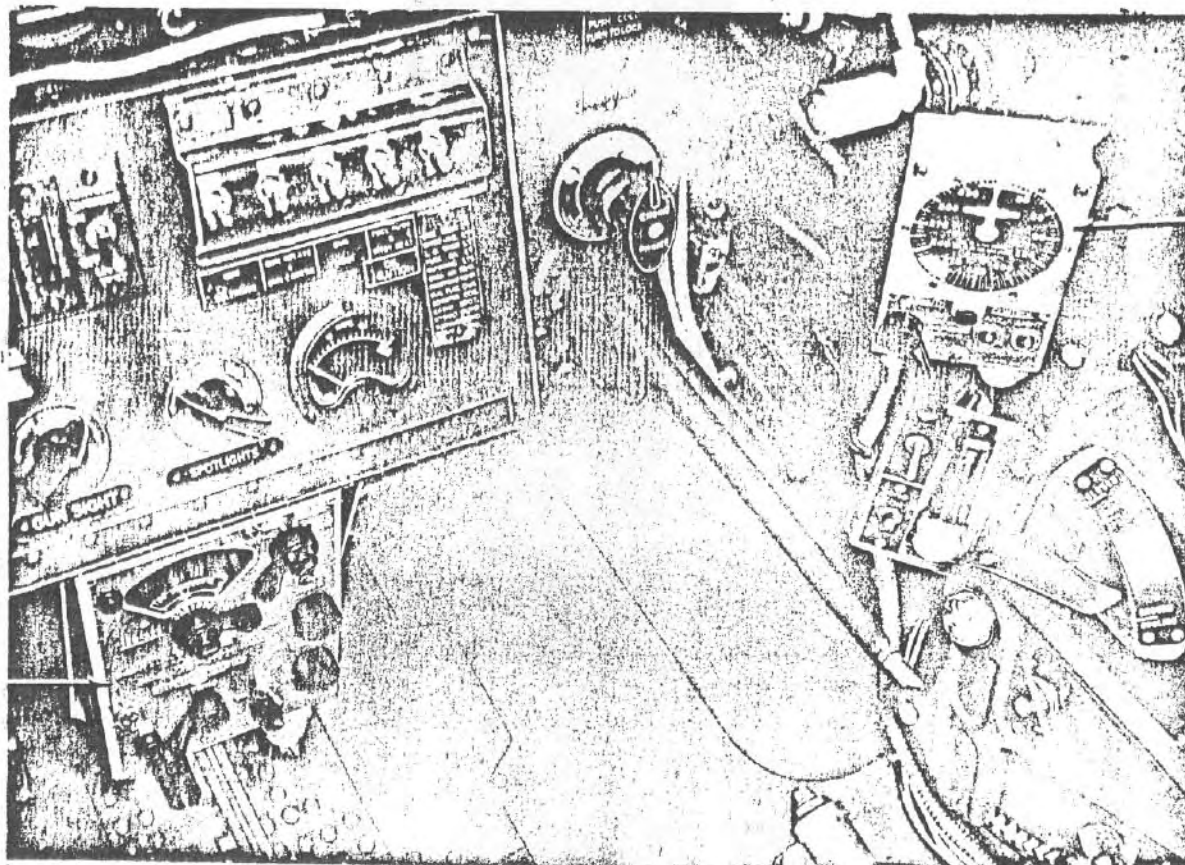

Figure 45—MN26 Radio Controls
d. RADIO COMPASS MODEL MN-26( ). (Figure 45.)
(1) DESCRIPTION.—The radio compass equip-